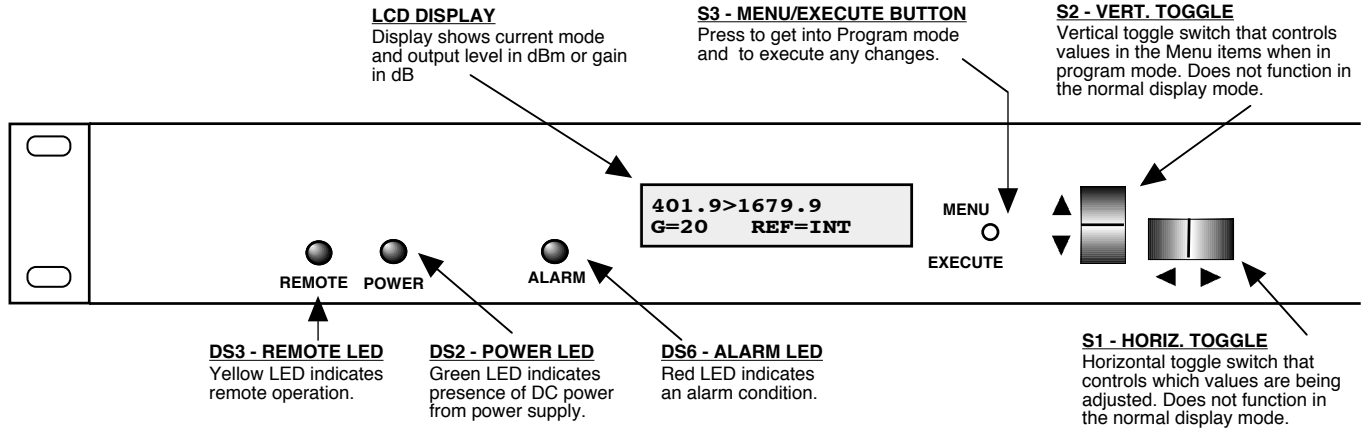

FIGURE 2.2 2083-0416# Front Panel Indicators
Figure 2.2 shows the front panel indicators.
4. Be sure DS2 (green, DC Power) is on and DS6 (red, Alarm) is off (Figure 2.2).
Alarm indications appear on the LEDs (see figure 2.2).